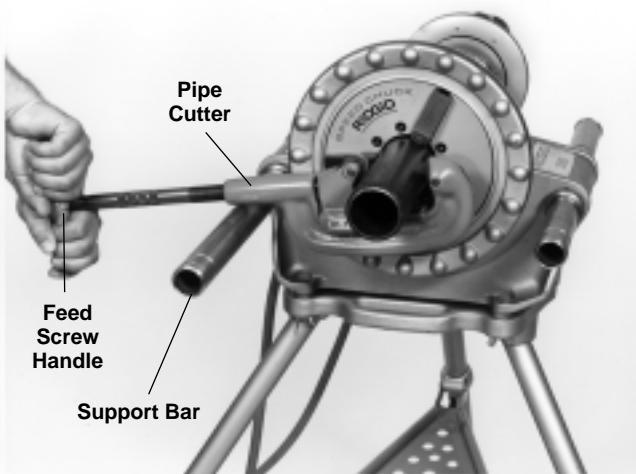

Figure 4 – Cutting Pipe with Hand Cutter
3. Rest **pipe cutter** frame on **support bar** (Figure 4) located on switch side of machine. Tighten **feed screw handle**.
6. Continuously tighten feed screw handle (*Figure 4*) with both hands until pipe cutoff is completed.
6. Push back support bar (*Figure 4*) on switch side.